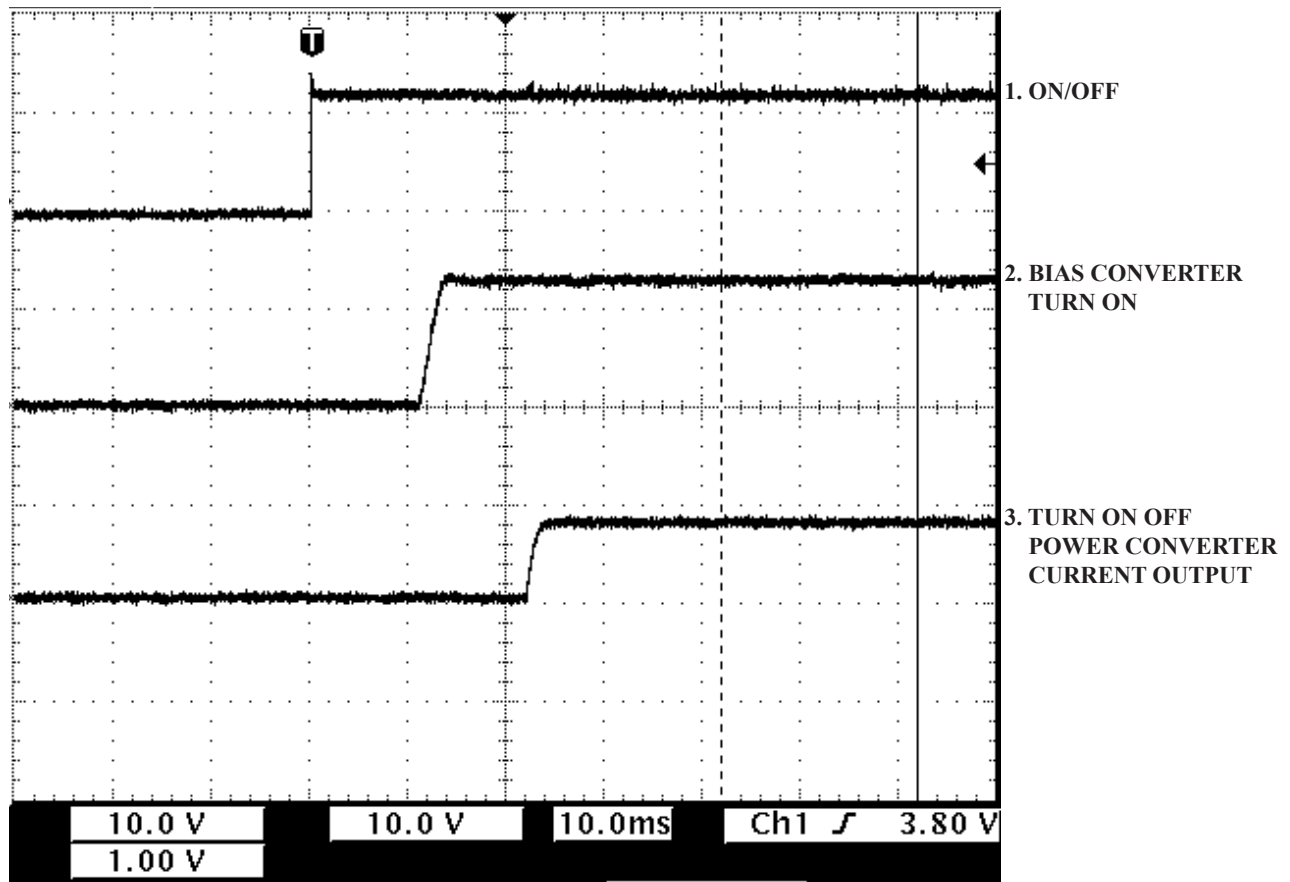

FIGURE 4. Power converter output current, bias converter and ON/OFF waveforms
A) Assuming that the applied  $V_{in}$  is within  $UVP \leq V_{in} \leq OVP$  in approximately 14ms, the bias converter is turned on (See FIG 4) and powers the input and output control circuitry, PWM 1 is ON. At this point, a power “good” signal allows the soft start capacitor of PWM 2 which was held low during the first 14ms to go through its turn on delay and soft start to deliver power to the output under the direction of the output control. The total turn on delay and soft start for the PWM 2 is approximately 24 to 30ms (See FIG 4, 5 of datasheet). Depending on the output configuration, the ACC1200 can operate as a constant current or constant control converter.